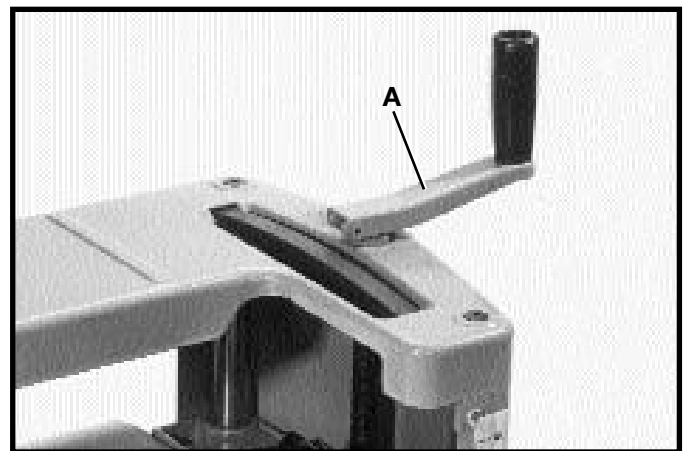

Fig. 5
2. Flip handle (A) upward as shown in Fig. 5.